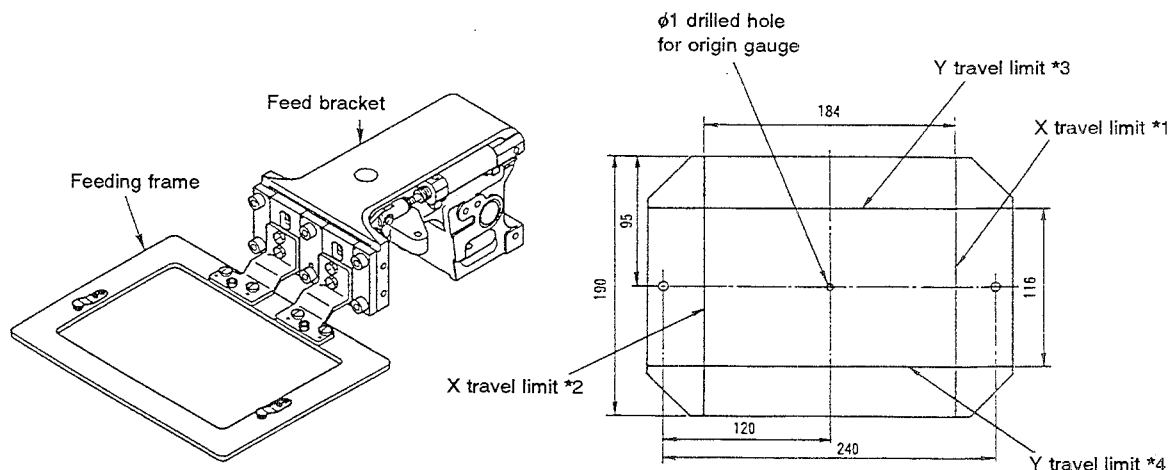

Fig. 5-33-1
- 2) Press jog keys $\boxed{4 \leftarrow}$ and $\boxed{6 \rightarrow}$ on the operation panel to move the feeding frame to the right or left so that the needle point stops on the X travel limit of the origin gauge. (± 1.5 mm) (Error indication $\boxed{4}$ will be shown.) (Fig. 5-33-1, Fig. 5-33-3)
- 4) Press jog keys $\boxed{8 \uparrow}$ and $\boxed{2 \downarrow}$ on the operation panel to move the feeding frame forward and backward so that the needle point stops on the Y travel limit of the origin gauge. (± 1.5 mm) (Error indication $\boxed{4}$ will be shown.) (Fig. 5-33-1, Fig. 5-33-3)